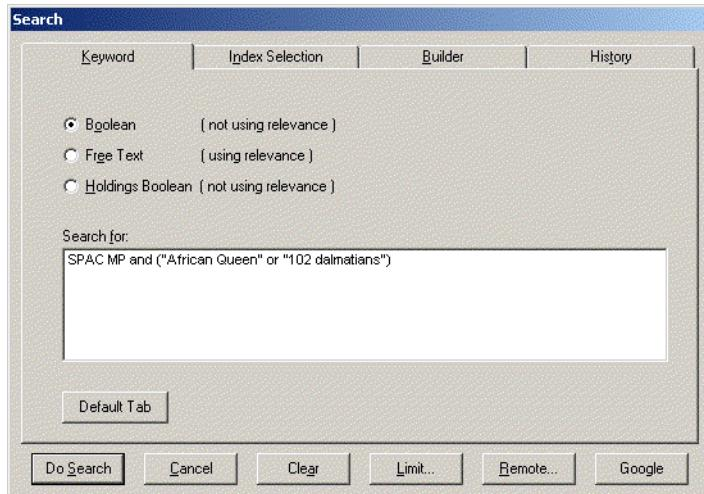

Figure 2-66. MFHD-Bibliographic Combined Keyword Search - command line example
Example: The following is an example of a command-line search for "102 Dalmatians" or "African Queen" in the motion picture collection where SPAC is the Voyager code for the indexed 901 \$a holdings field and MP is the code representing the motion picture collection stored in the 901 \$a . See Figure 2-66 and Figure 2-67.
The SPAC code may be used in a command-line search to identify the index to be searched. See Figure 2-66.
- And, or, or not boolean logic may be used to separate each index and term/phrase combination in a command line search as in Figure 2-66